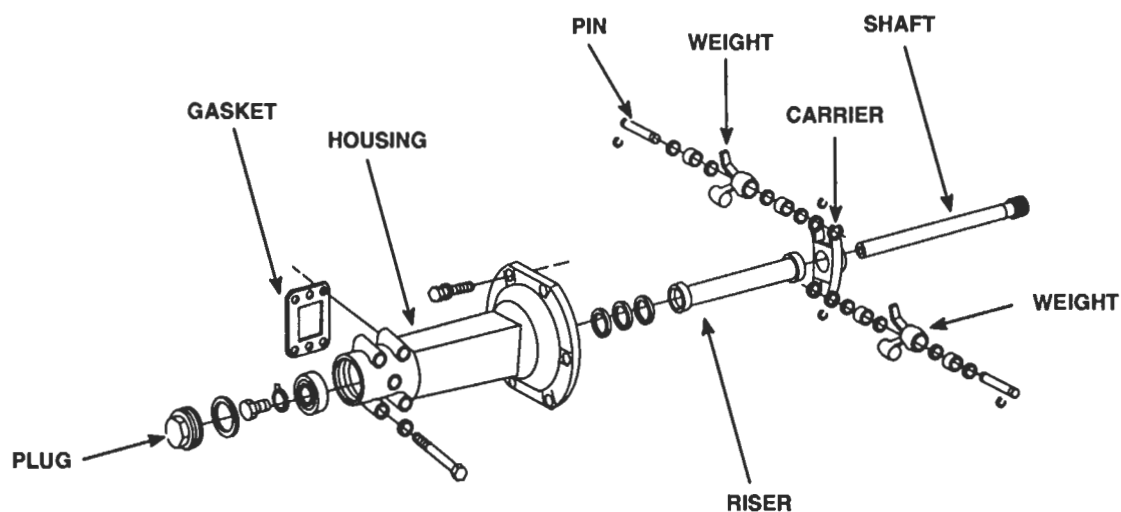

Figure 9. Governor Weight Housing Components
- a. Place the weight housing in the soft jaws of a vise (Figure 9.) Remove the end plug and gasket.